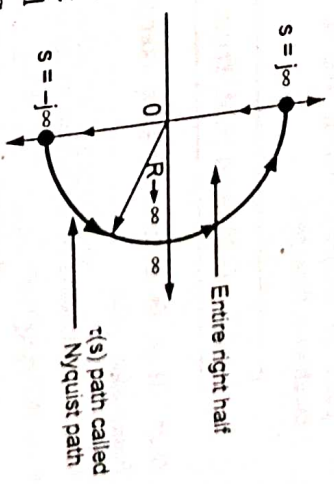

Fig. Q.20.1
- Such a path should start from  $s = +j\infty$ . It should be continued till  $s = -j\infty$  along imaginary axis and should be completed with a semicircle of radius  $\infty$ , encircling entire right half of s-plane as shown in the Fig. Q.20.1. This path is called Nyquist path and should not be changed except small modifications, while analyzing stability of any system.